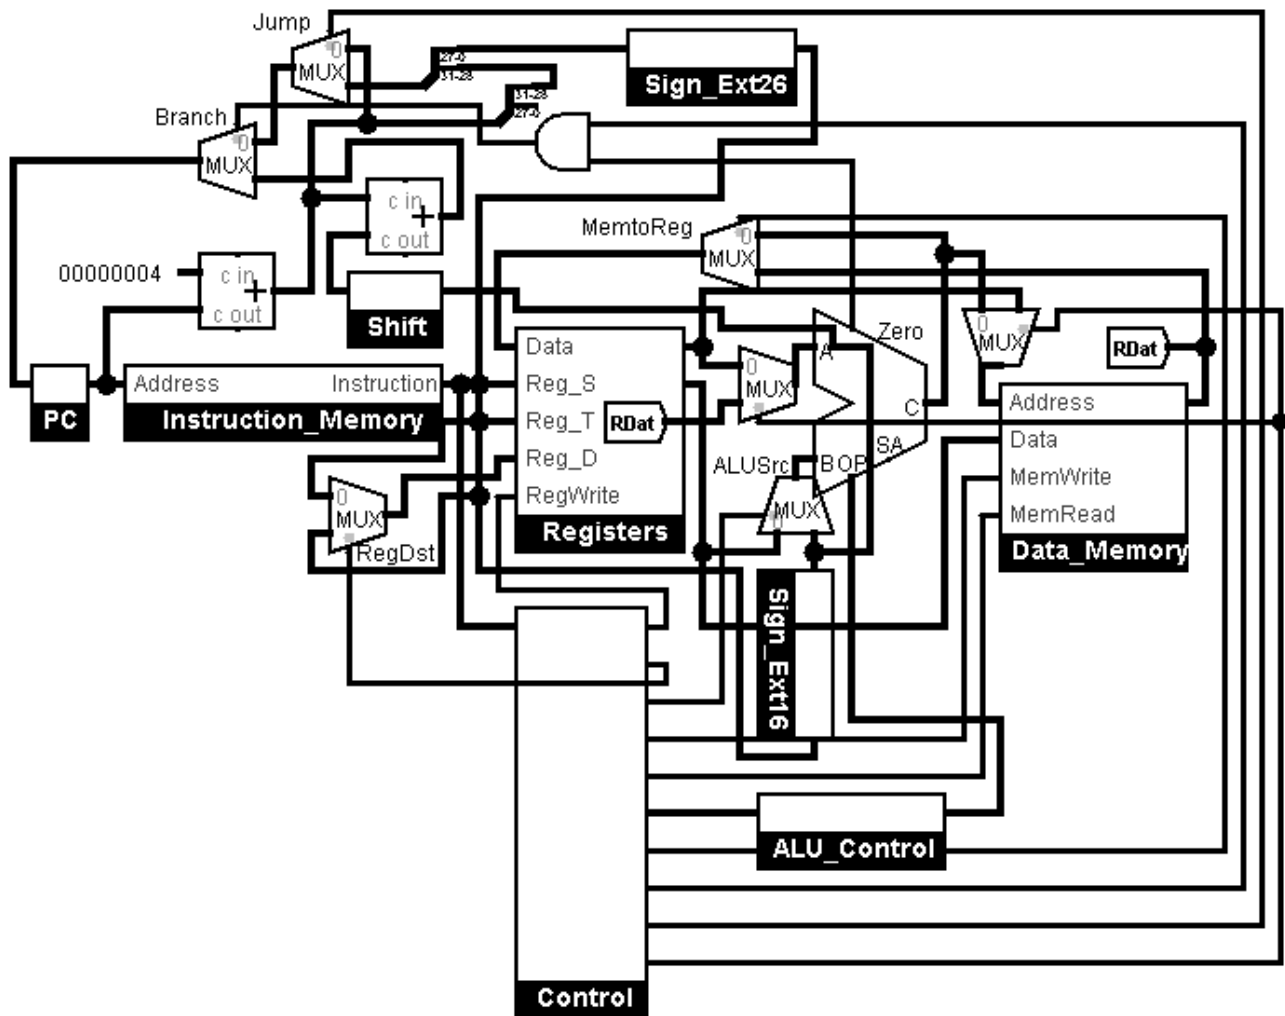

Figure 8: law Full Implementation
- thus we need a new signal `LawC` to control two new MUXed modifications as seen in Figure 8: